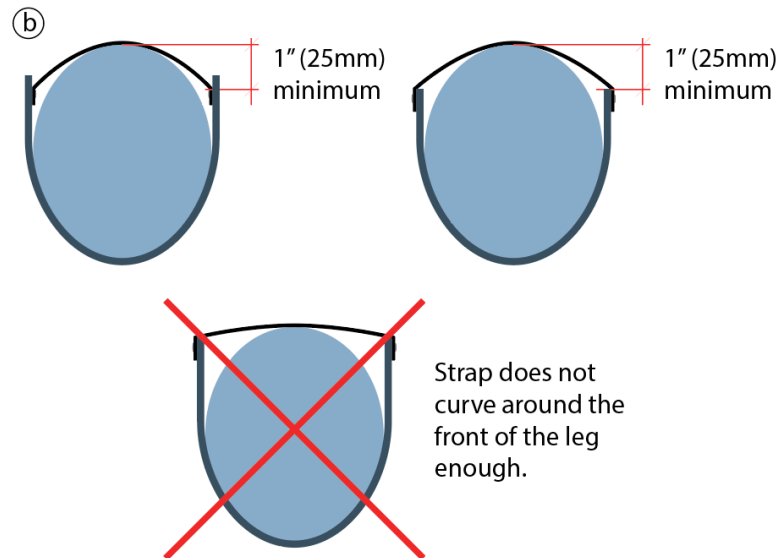

Figure 3 Strap Locations From Above
- b. Shells must be trimmed so that the leading anterior edge is at least 1" posterior of the front of the leg, so that the straps curve around the thigh and shin (as opposed to going straight from one side of the Shell to the other) and pull the KAFO snugly around the leg and towards the posterior. We recommend attaching the straps to the interior of the KAFO Shells but the exterior is OK as well. See Figure 3 Strap Locations From Above.
See 2.2.1 Shell Construction and Figure 3 Strap Locations From Above for strap location recommendations.